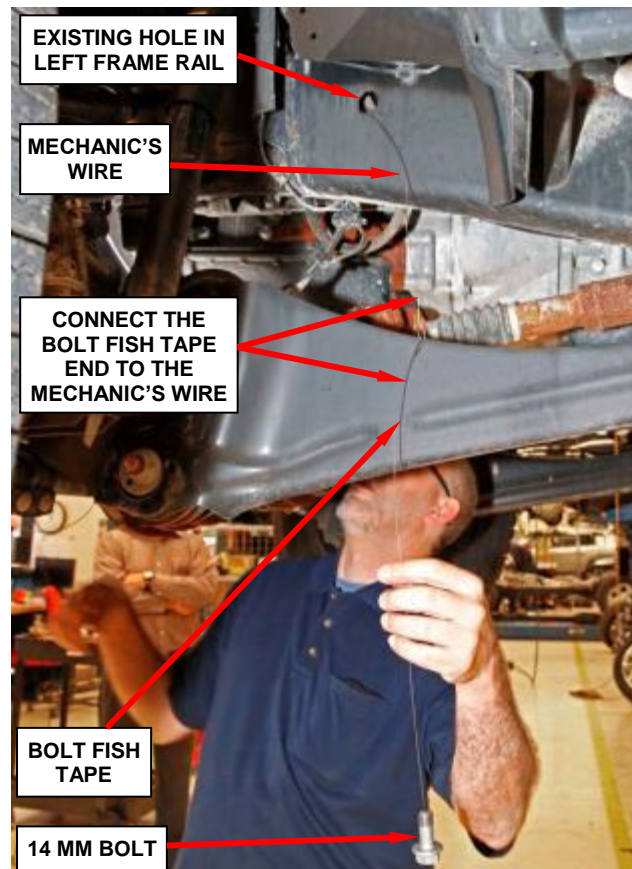

Figure 23 – Install 14 MM Bolt
41. Using a piece of mechanic’s wire and starting at the 5/8” diameter frame hole, insert the mechanic’s wire and feed it through the frame until it comes out the existing hole in the outside face of the left frame rail (Figure 23).
42. Connect the mechanic’s wire end to the “bolt fish tape” end at the outside face of the left frame rail (Figure 23).
61. Place the track bar into position and install the new track bar bolt. The bolt must enter from the rear of the vehicle and point forward, with the track bar bolt nut on the front side (Figure 23).